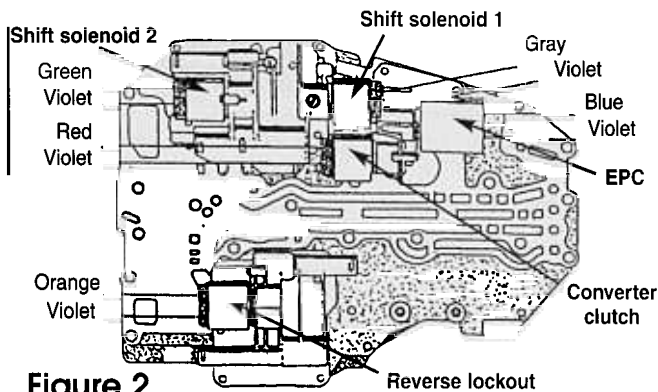

Figure 2
5. Remove original solenoids and install Teckpak/Fitzall solenoids (**Figure 2**). Use large Posi-Lock™ connector for two wires and small Posi-Lock™ connector for one wire. Reinstall pressure control solenoid housing to valve body. Cut wires on harness to achieve a proper wire length.